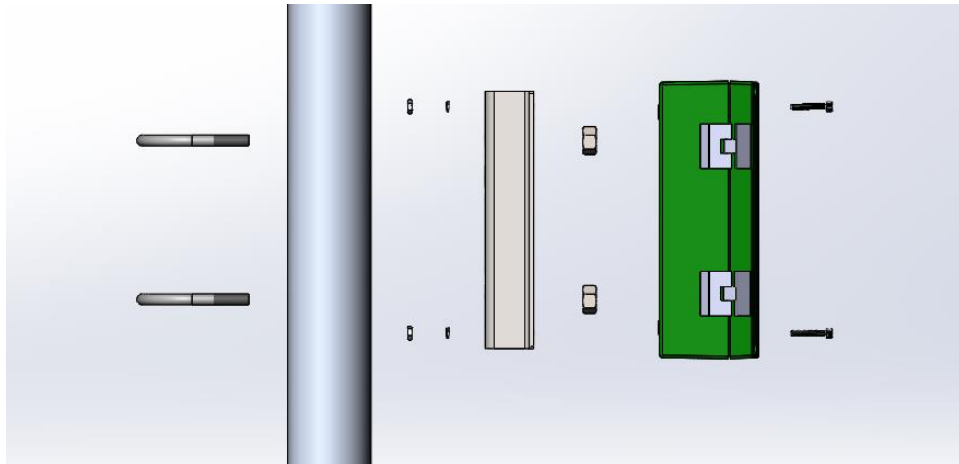

Figure 2-14: Exploded Side View of Pipe Mounting Bracket Assembly
1. Gather the mounting bracket and two U-Bolts provided with your flowmeter. For an idea of the steps involved in this installation, refer to Figure 2-14 and 2-15.